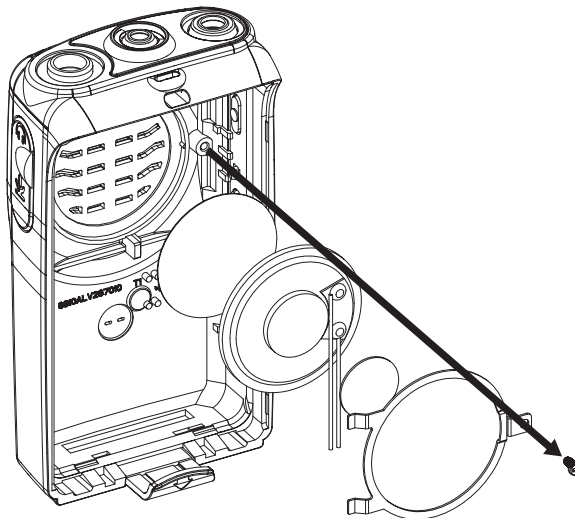

Figure 2-6
13. Unscrew the speaker bracket from the housing (see “Figure 2-6”).